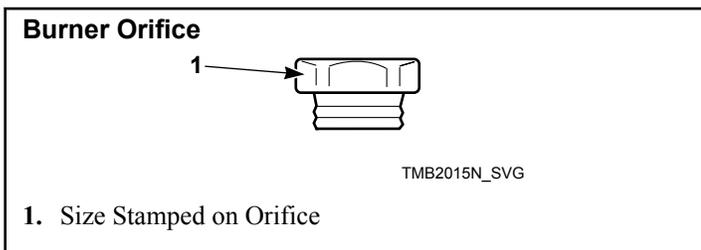

Figure 19
3. Install the new, correct burner orifice(s). Refer to *Figure 19* and *Table 9* . Torque each to 9 – 10 Nm. Use Loctite 565 or equivalent pipe thread sealer.
4. Reinstall orifice holder assembly to gas valve, making certain burner orifice(s) are in line with burner tube opening. Refer to *Figure 19* .